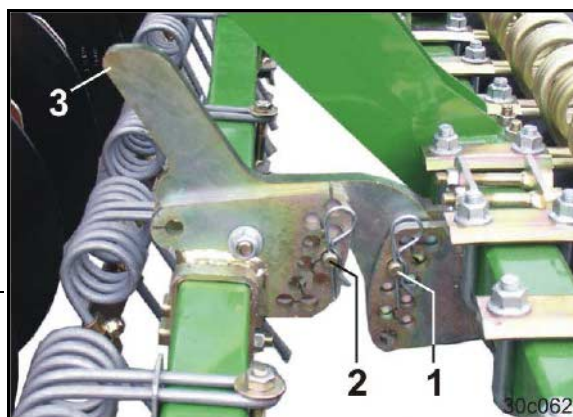

Fig. 90
3. Hold the harrow tine bar by the carrier arm (Fig. 90/3).
4. Adjust the working depth of the harrow tines by securing the carrier arm with the pin (Fig. 90/1).
6. Alter the arrangement angle of the tines to the ground by securing the pin (Fig. 90/2)
Ensure that the pin (Fig. 90/2) is positioned below the carrier arm (Fig. 90/3) in the adjuster segment.
The deeper the pin (Fig. 90/2) is inserted in the adjuster segment, the flatter the angle.
7. After each repositioning, secure the pin (Fig. 90/2) with a safety splint.